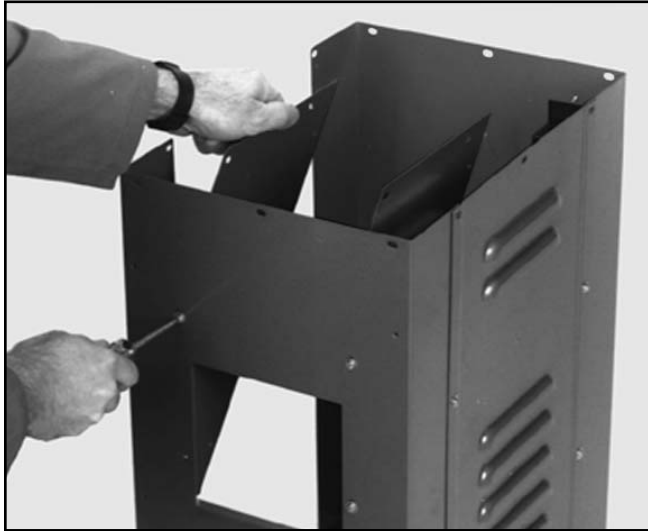

Figure 4. Attaching the dust chute.
2. Mount the two dust chute sides to the dust chute end as shown in **Figure 4**. Note that the flanges are pointed away from the inside of the chute. Do not fully tighten the screws yet.
3. Position the dust chute base between the dust chute sides (flanges up), carefully aligning the screw holes in the base and the sides. **See Figure 4 and 5.** The flanges should be inside the chute.